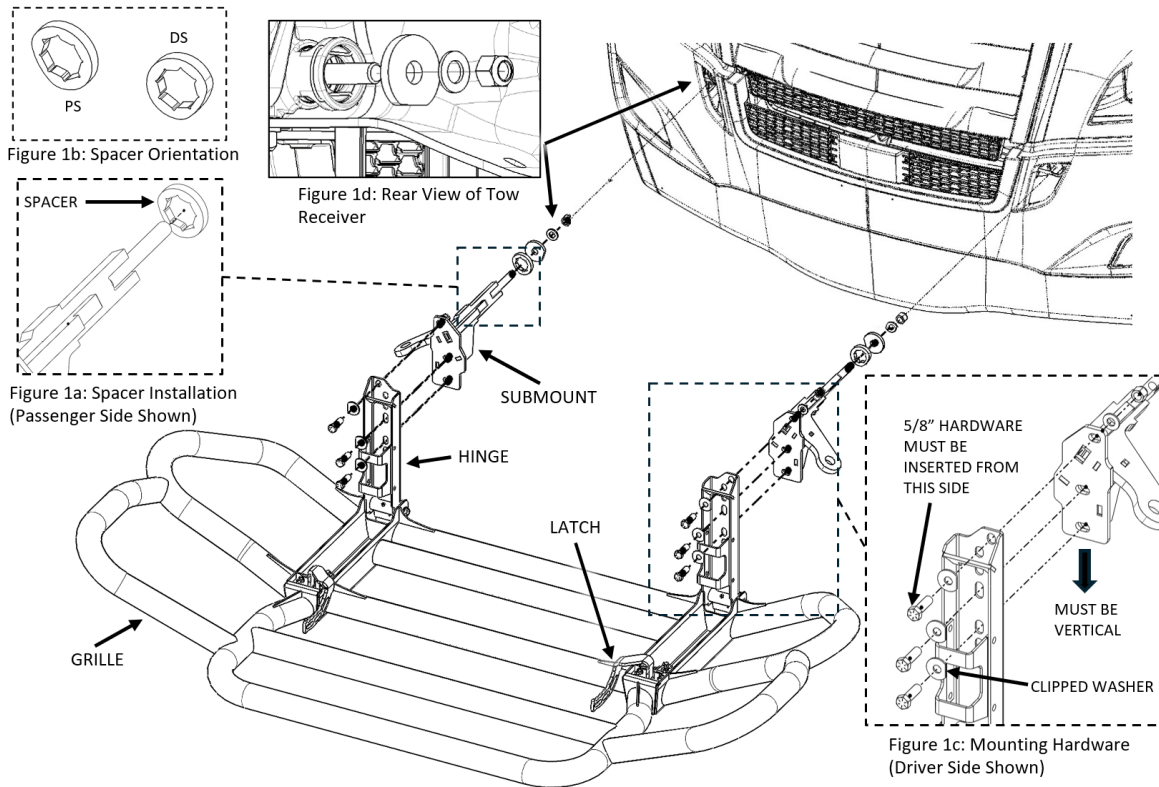

Figure 1: Grille Guard Installation (Your Grille Guard may not be exactly as shown)
4. Open driver side Hinge and lift to driver side Submount. Hand tighten upper hardware shown in Figure 1 (**do not fully tighten**). Repeat for passenger side. **Ensure bolts are inserted from front (Hinge side) as shown in Figure 1b**.